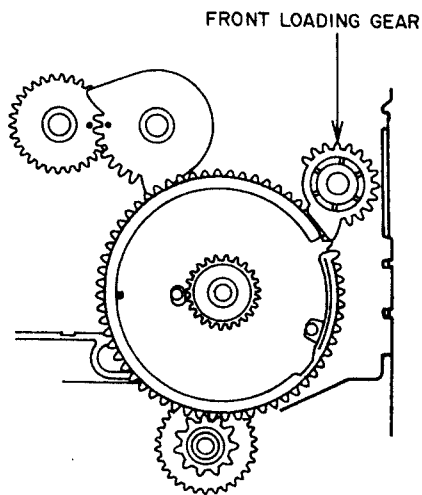
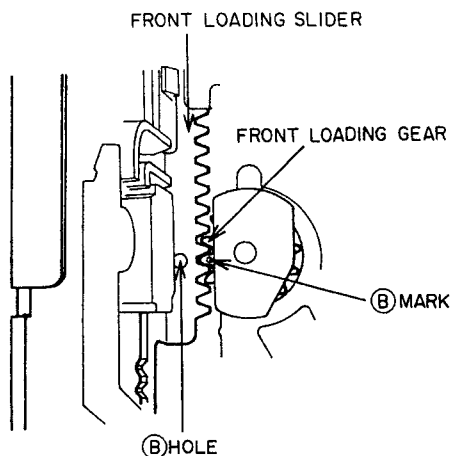

Fig. 3-10
Fig. 3-11
3) Attach the FRONT LOADING GEAR as shown in Fig. 3-10 and align the ⓑ mark on the FRONT LOADING GEAR with the ⓑ hole of the FRONT LOADING SLIDER as shown in Fig. 3-11.